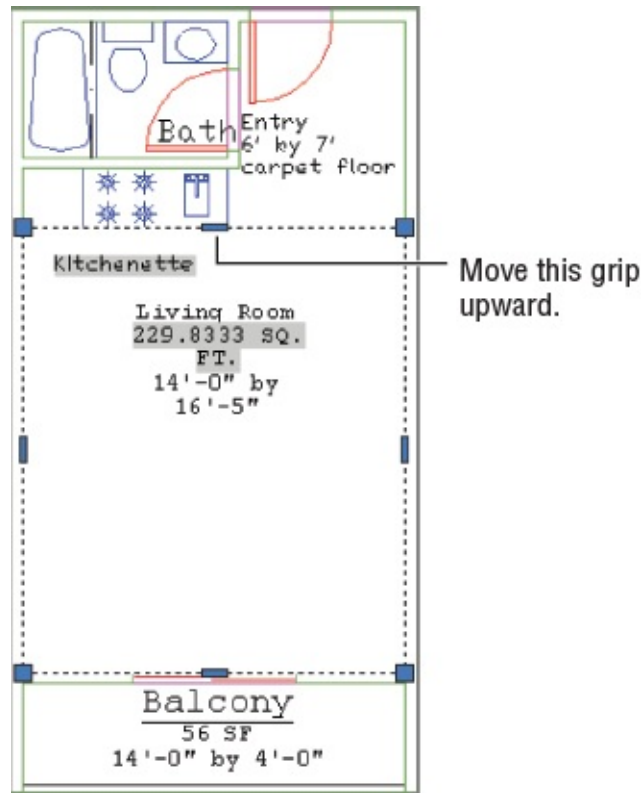

FIGURE 10.5 Expose the grips.
1. Click the rectangle to expose its grips (see Figure 10.5). Then select the top-middle grip of the rectangle, and move it upward so that the top edge aligns with the bathroom wall.